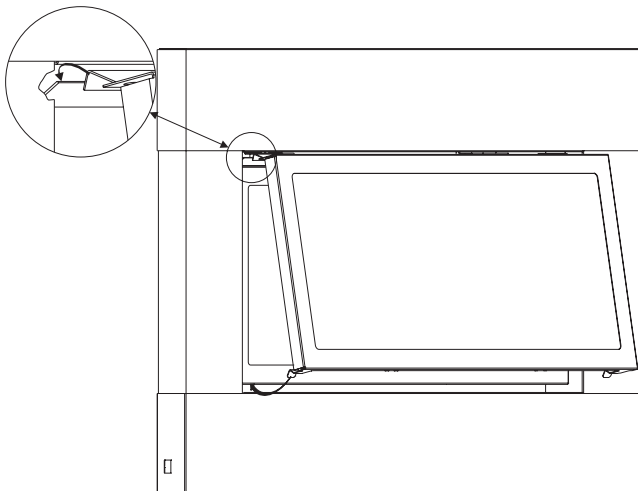

Figure 52
After the Glass Door and Surround assemblies have been installed, attach the Barrier Screen onto the Glass Door frame by hooking the top flange of the barrier over the top of the Glass Door frame, then snap the bottom extended friction tabs under the Glass Door frame to secure. Adjustments to the bottom tabs may be required to maintain a light snap-on action. **See Figure 52.**
- Check the barrier screen for fit and structural integrity. **See Figure 52.**
See Figure 52.